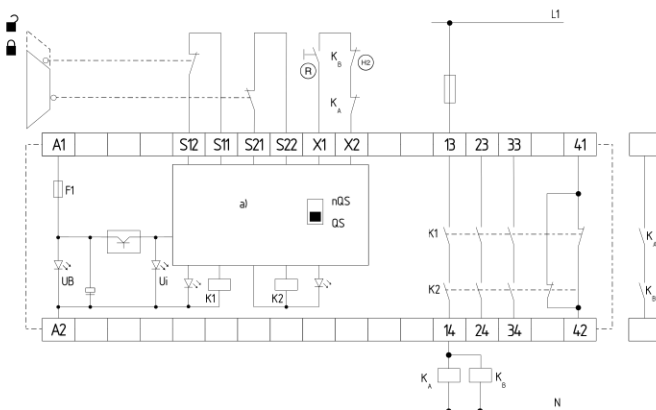

Fig. 4
**Dual-channel control, shown for a guard door monitor with two position switches where one has a positive break contact; with external reset button  $\textcircled{R}$  (Fig. 4)**